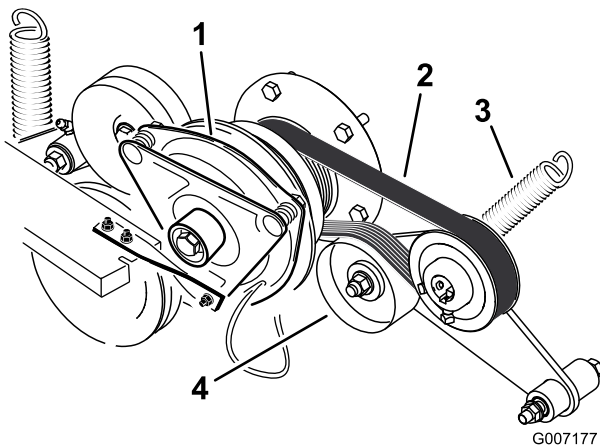

Figure 74
3. Remove the spring from the idler arm (Figure 74).
4. Install the new belt around the engine and hydro pump pulley (Figure 74).
6. Install the spring to the idler arm (Figure 74).